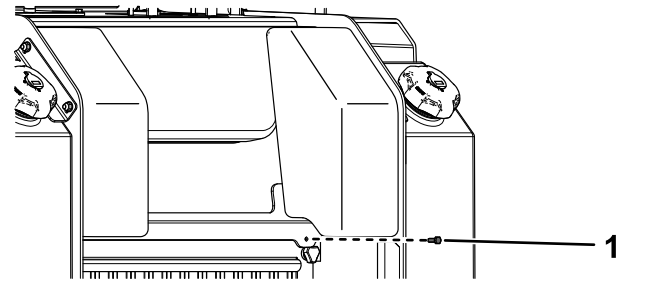

Figure 36
1. Remove the fastener (Figure 36).
2. Lift the rear-access cover up and secure the prop rod to access the internal components (Figure 36).